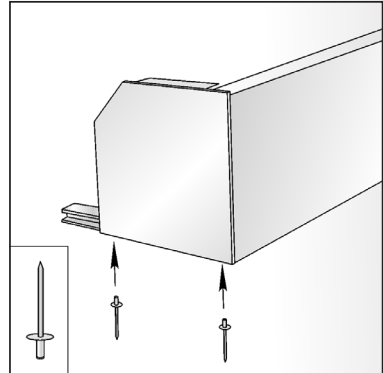

Fig. 22
- g) Install $\phi 4 \times 10$ aluminium rivets and rivet the rear panel of the shutter box with end caps (Fig. 22).